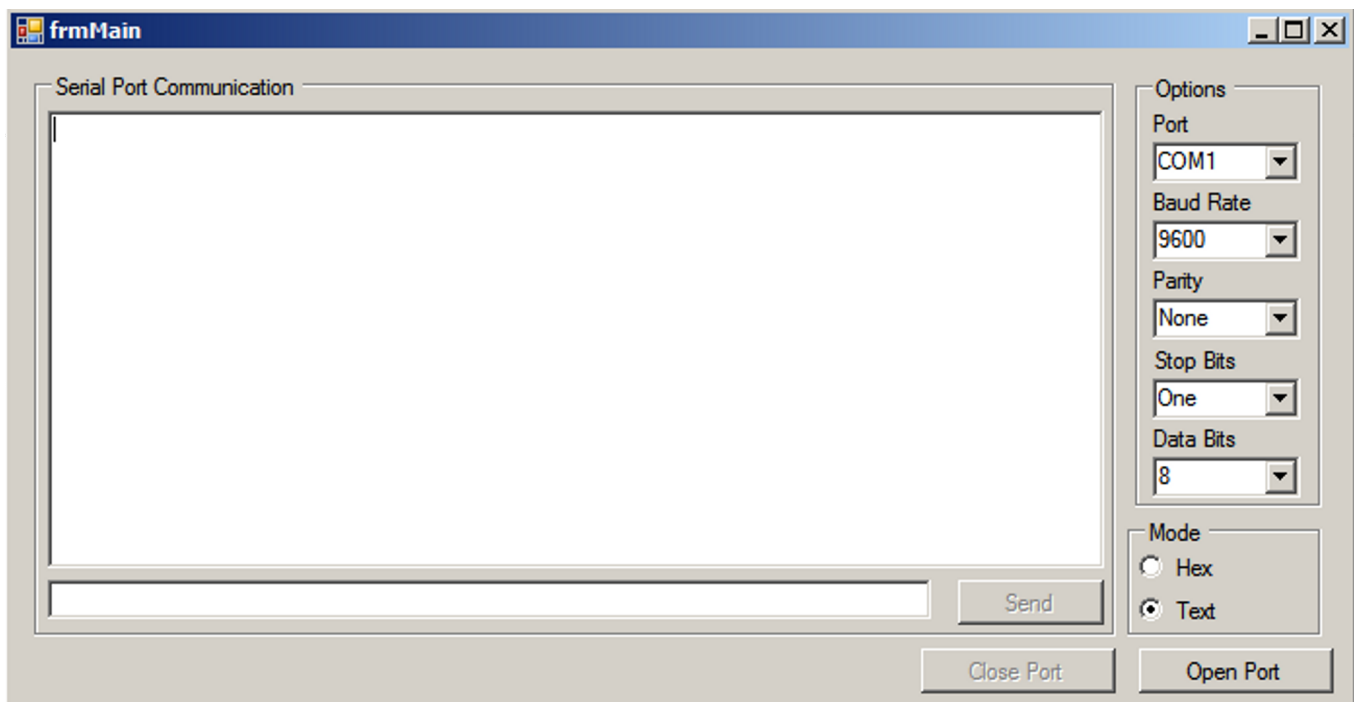

FIG. 2: Serial Port Monitor screen
2. Open up Serial Port Monitor and choose serial port COM1. Choose Open Port as in Figure 2. Note that you can't be flashing and using Serial Port Monitor at the same time.